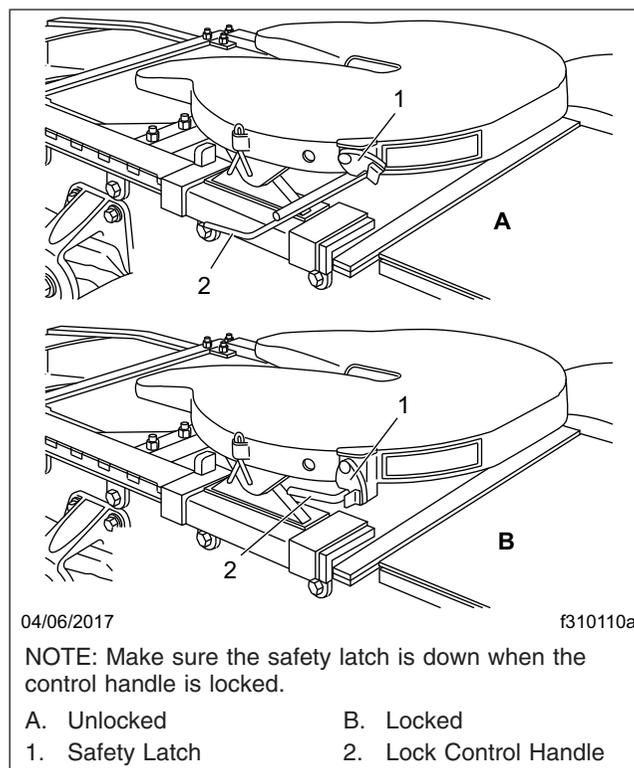
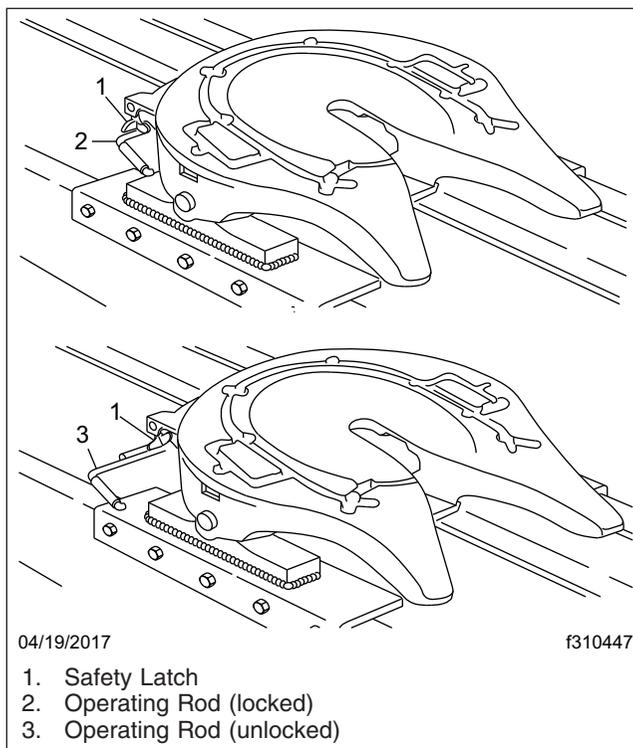

Fig. 20.1, Fontaine Locking Mechanism
Fig. 20.2, Holland Simplex SE Locking Mechanism
2. Ensure the fifth wheel jaw is fully open and the operating rod is in the unlocked position. See Fig. 20.1 or Fig. 20.2.
When lockup has occurred, the fifth wheel control handle moves to the locked position. Make sure that the safety latch is down over the lock control handle to hold the control handle in the locked position. (The safety latch will only rotate down if the operating rod is fully retracted in the locked position.) See Fig. 20.1 for Fontaine fifth wheels. See Fig. 20.2 for Holland fifth wheels.
- 6.1 **Fontaine:** Lift the safety latch and pull the lock control handle to the unlocked position. See Fig. 20.1.